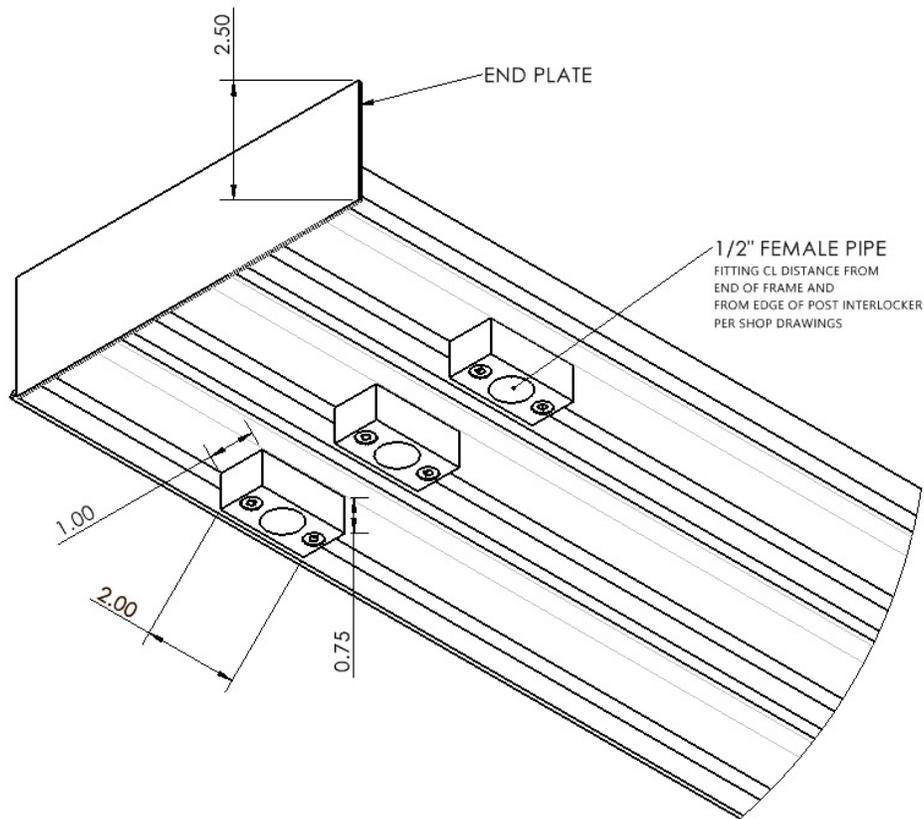

Figure 4
- Bottom Drain Fitting Sill (See Figure 4).
**NOTE: pocketing doors should not have drain fittings or weeps located in the pocket area of the sill. Be sure to leave adequate clearance for a drain line and fitting for each track. (See Figure 4).**